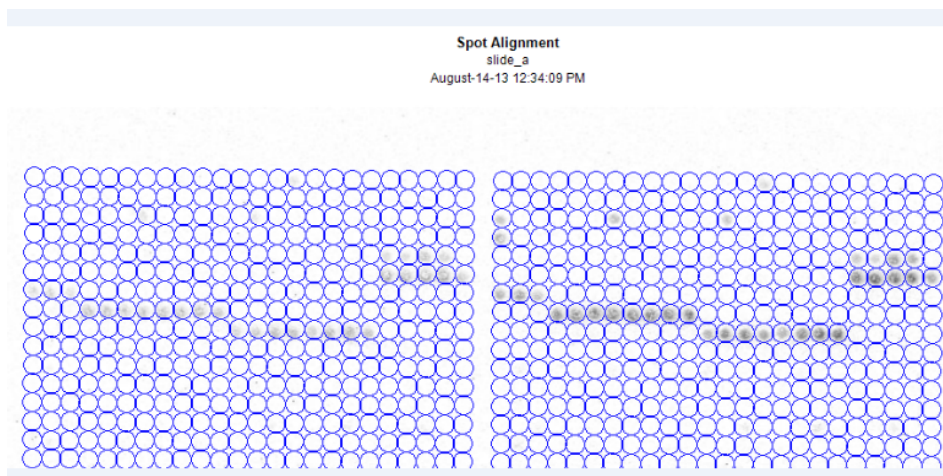

Figure 4. Spots Aligned on Grid
6.10. The Spot Alignment tab contains an image of the grid overlay. See Figure 4.